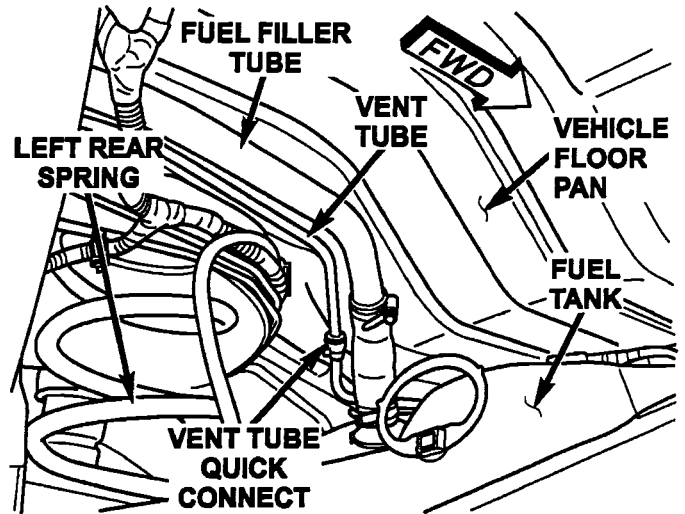

Figure 1
3. Disconnect the vent tube quick connect located next to the filler tube (Figure 1).